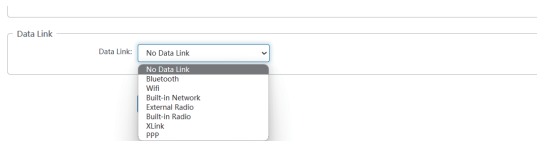

Figure 2.5-4
② Data link: You can choose No Data link/Bluetooth/WIFI /Built-in Network/Built-in Radio /External radio /XLink/PPP, as shown in Figure 2.5-4: